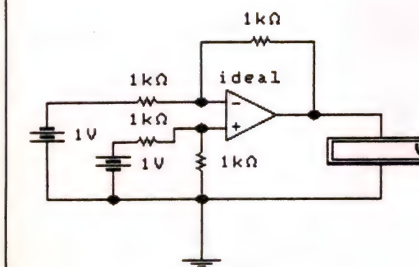

Fig. 5.16 Differential amplifier circuit (Assignment 5.1).
- Now reverse the battery connections as shown in Fig. 5.16. This connection produces an inverting input of -1V and a non-inverting input of $+1\text{V}$. Once again, record the output voltage in Table 5.8.